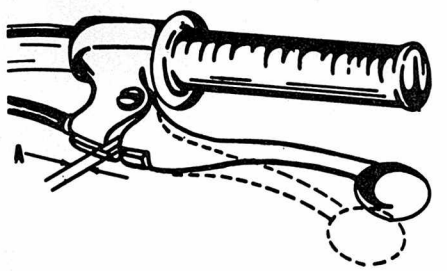

Fig. M7—Clutch hand lever should have 0.039-0.078 in. free play at A.
**CLUTCH CONTROLS.** The clutch cable should be adjusted to provide 1-2 MM (0.039-0.078 in.) free play at A—Fig. M7. Adjustment is accomplished at cable adjuster located at hand lever end of cable.